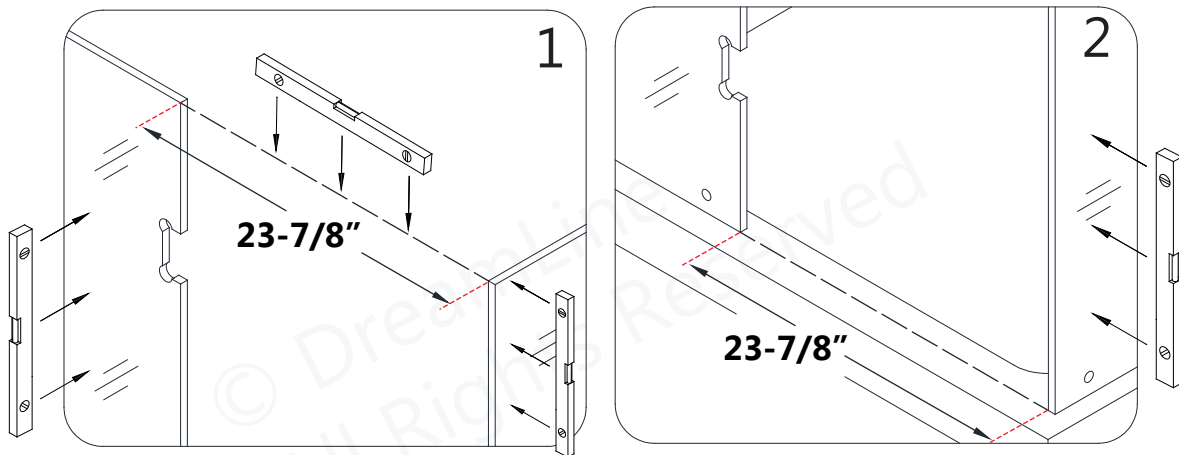

Fig 3
3. The distance between the **Hinge Panel Glass (#01)** and the **Return Panel Glass (#03)** must be **23 7/8"**. This is the required spacing for the **Door Glass (#02)**. Adjust the position of the **Return Panel Glass (#03)** as necessary to maintain this **23 7/8"** dimension. **(Fig 3)**